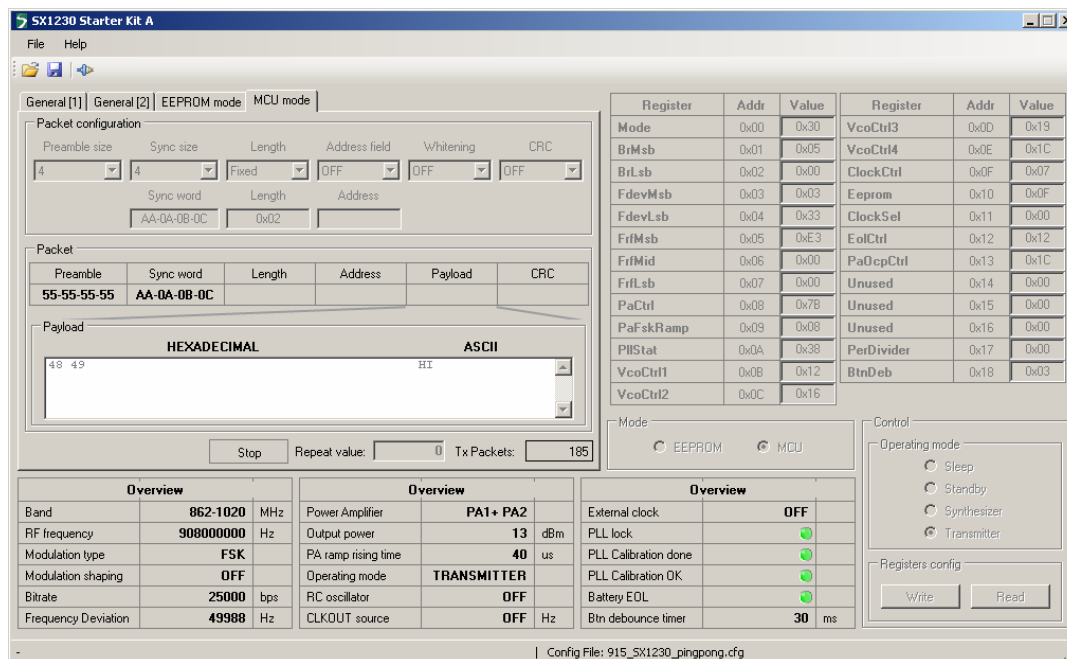

Figure 11. SX1230 During MCU Mode Packet Transmission
9. Once successfully configured, the SX1230 must be placed in packet transmission mode. This is done by selecting the 'MCU mode' tab – note that a pre-configured frame format identical to that for the SX1212SKA is already entered into the display. It suffices simply to click on the 'Start' button to begin continuous transmission of this frame. For clarity a screenshot illustrating the display during transmission is shown in Figure 11.